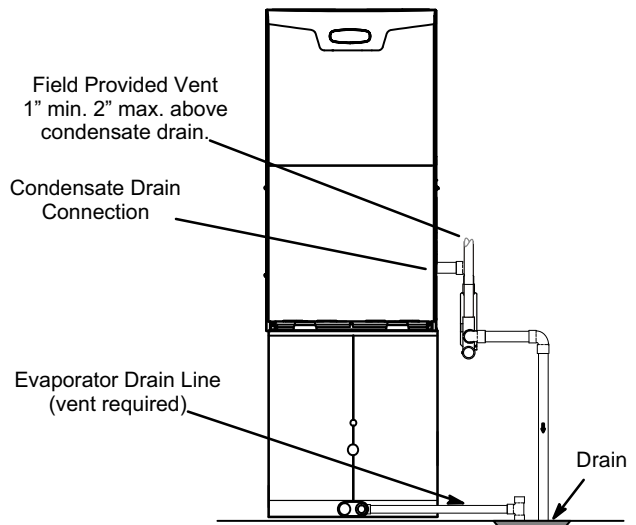

FIGURE 49
- 5 - Figure 49 shows the furnace and evaporator coil using a separate drain. If necessary, the condensate line from the furnace and evaporator coil can drain together. See figures 50 and 48. The field provided vent must be a minimum 1" to a maximum 2" length above the condensate drain outlet connection.